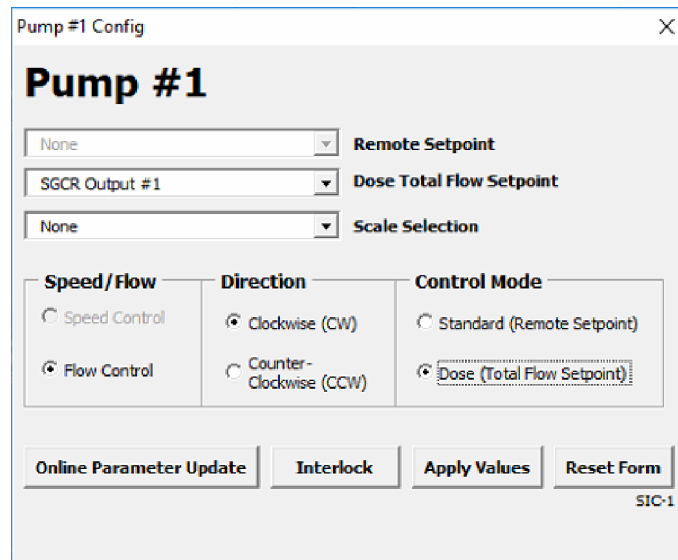

Figure 5.26. Setting up total flow dosing for Pump #1.
3. Use the dropdown menu to set the total flow setpoint to the **Characterizing Curve** used (**SCGR Output #1** in the example in Figure 5.26).